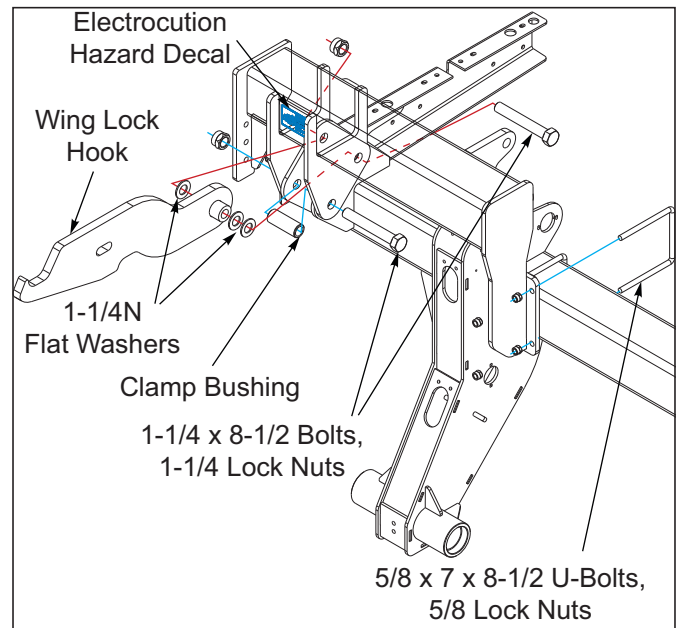
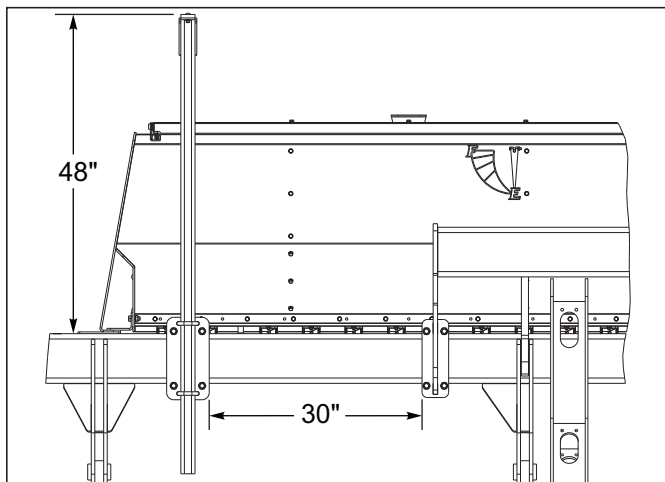
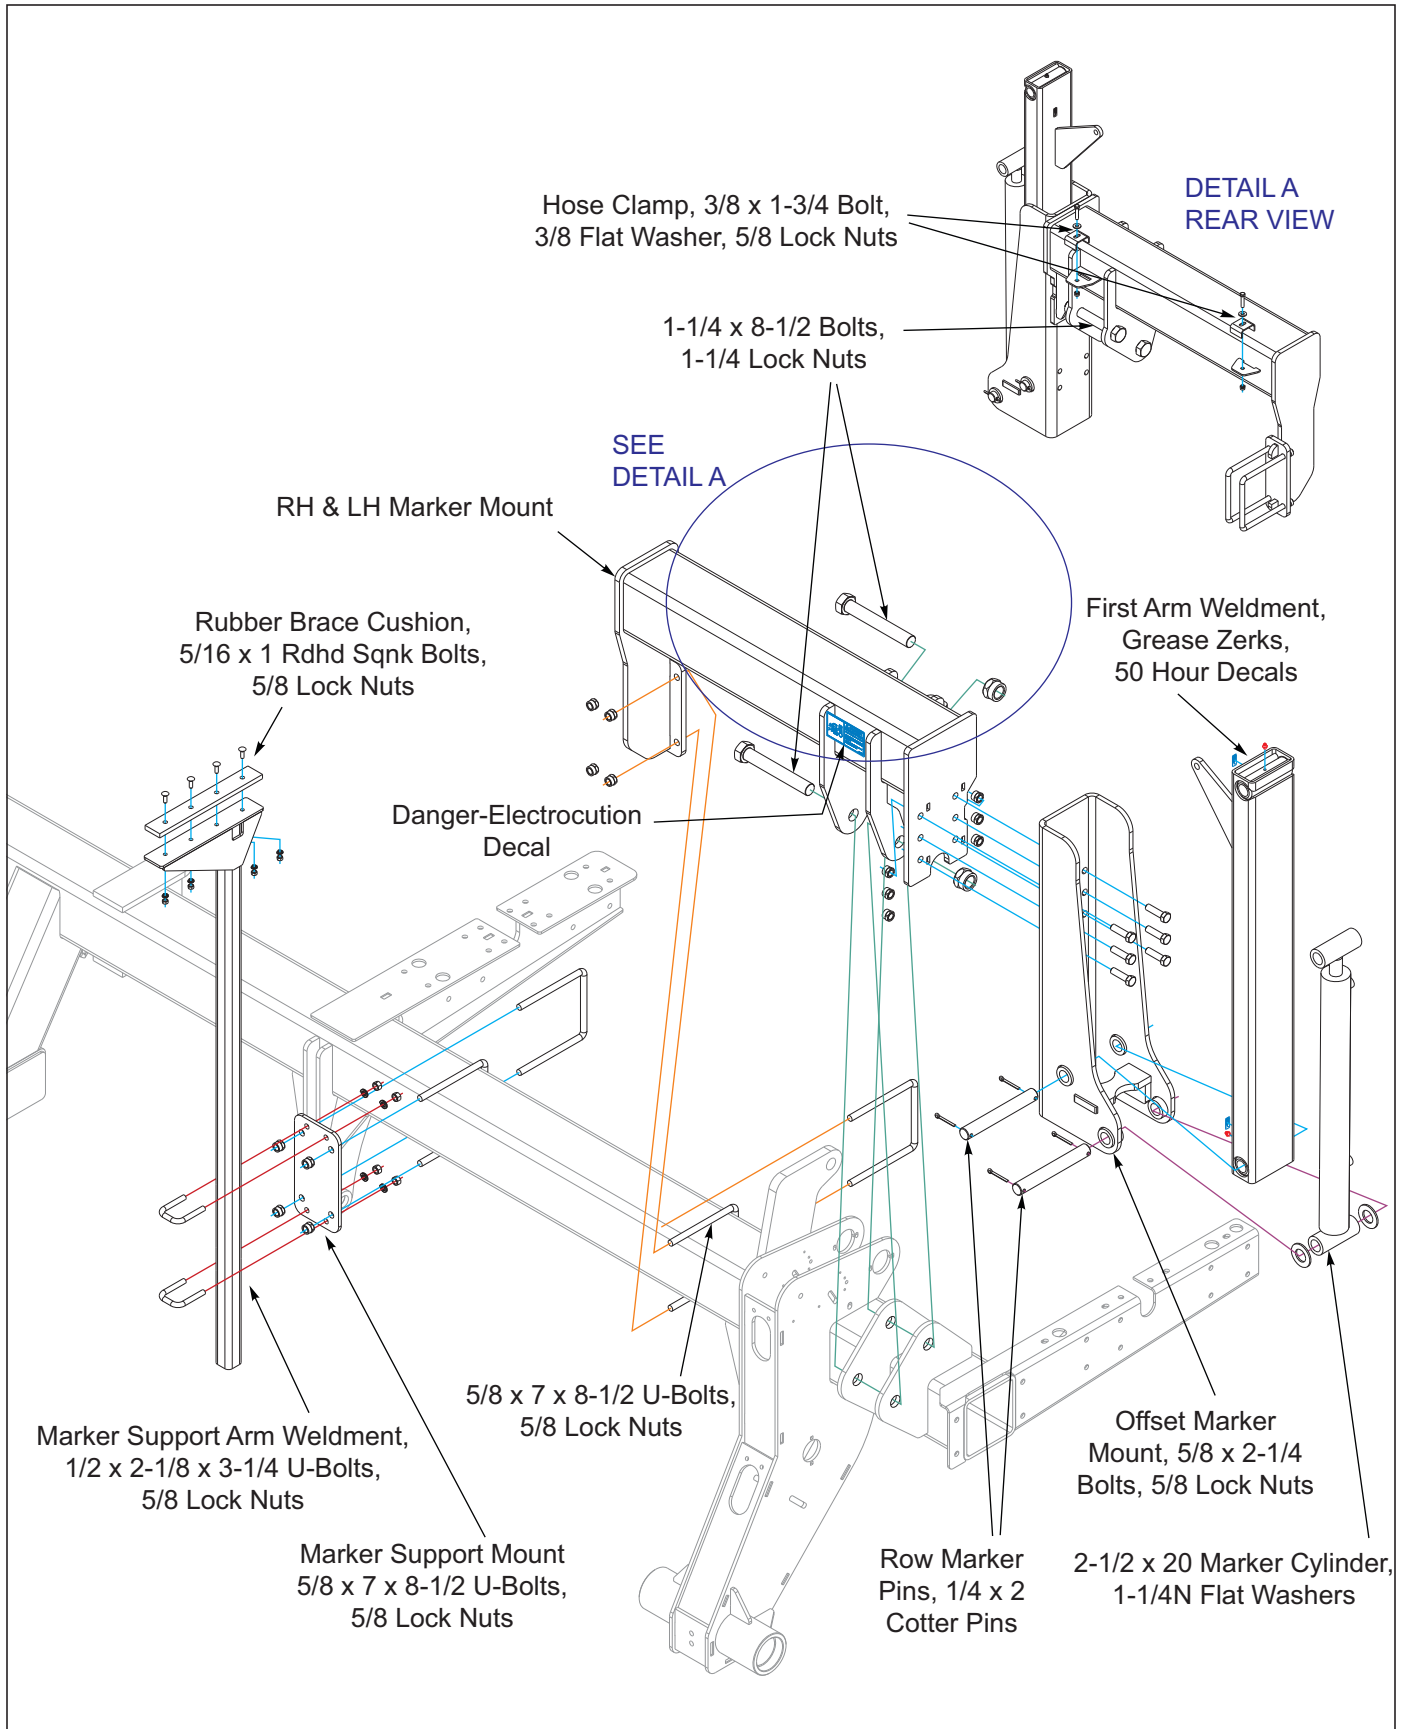

Figure 3-14: Marker Mounts Installation
Figure 3-15: Marker Support Placement 5532-40'
Figure 3-16: Marker Assembly (1 of 2)
14. Remove the wing lock hook and latch and clamp bushings from the outer ends of both wings **See Figure 3-14** and **See Figure 3-16**.
17. Install the first arm weldment to the offset mount using double hole pivot pin and 1/4 x 2 cotter pins. Install grease zerks in each end of the first arm **See Figure 3-16**.
19. Connect the base end of the marker cylinder the fold mount using a welded pin, 1-1/4 flat washers, and 1/4 x 2 cotter pins. Position the fold cylinders so the hydraulic ports face rearward. Connect the rod end of the fold cylinder to the slotted hole of the mid arm using pin washer weldment, 1-1/4 flat washers and 1/4 x 2 cotter pins. Install washers over the outside of the slotted holes **See Figure 3-16**.
29. On 40' drills install the marker support mount to the front of the wing frame, using u-bolts and 5/8 locknuts, approximately 30" from the marker mount **See Figure 3-15** and **See Figure 3-16**. Attach the marker support arm to the front of the mount with u-bolts and 1/2" locknuts. The marker support stand should extend to approximately 48" above the top of the drill frame with the longest offset pointing forward. Install the rubber brace cushion to the top of the marker support stand using 5/16 x rd head sq neck screws, lock washers, and nuts.